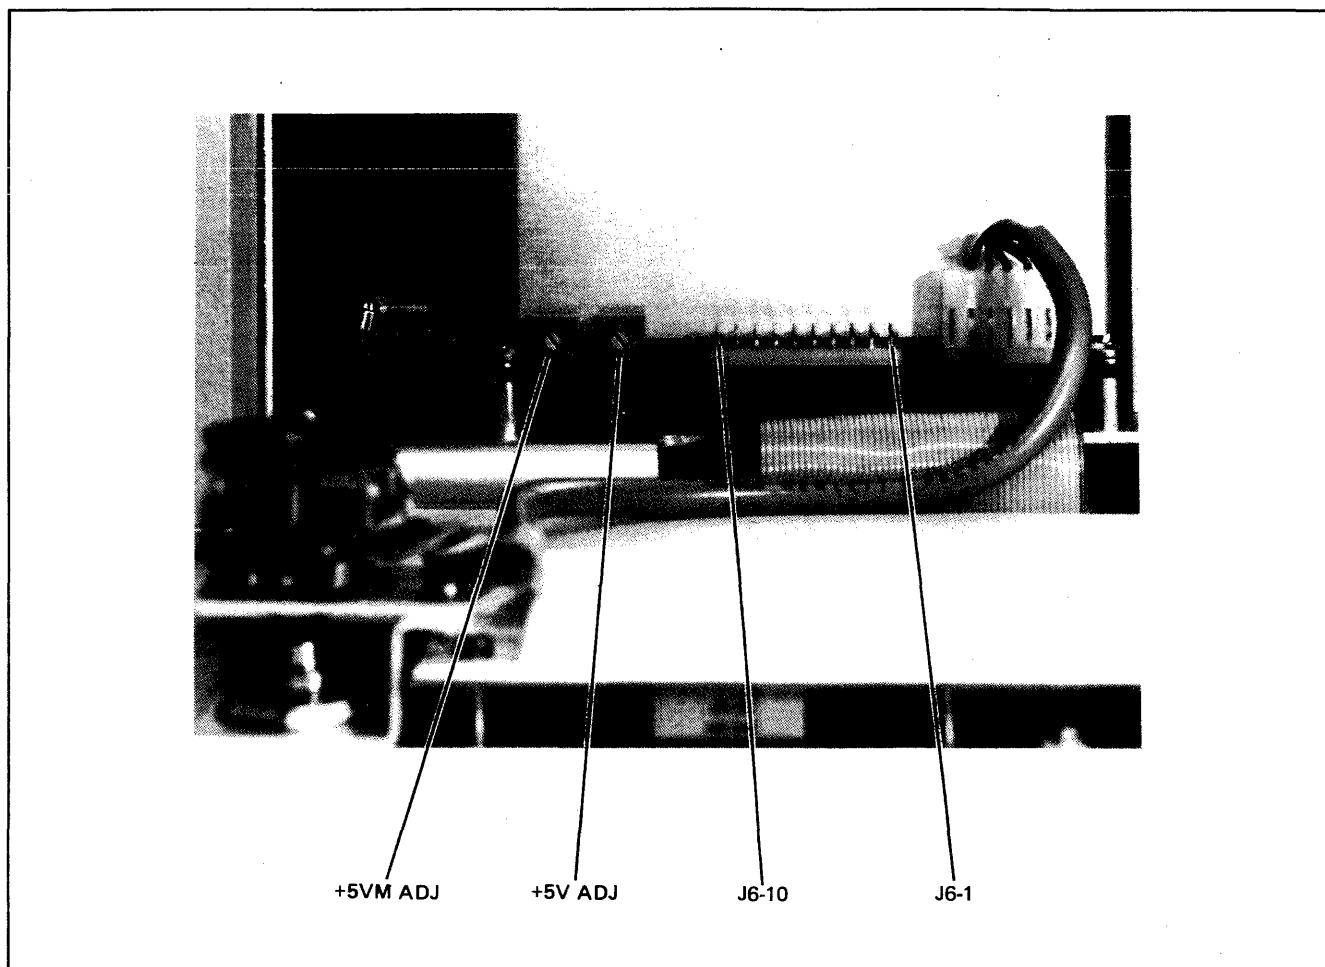

Figure 1-8. HP 2112A Processor Power Supply Field Adjustments and Test Points
- f. Connect positive lead of digital voltmeter to J6-5 (+5V test point) and connect common lead to J6-2 (common test point). (See figure 1-8.)